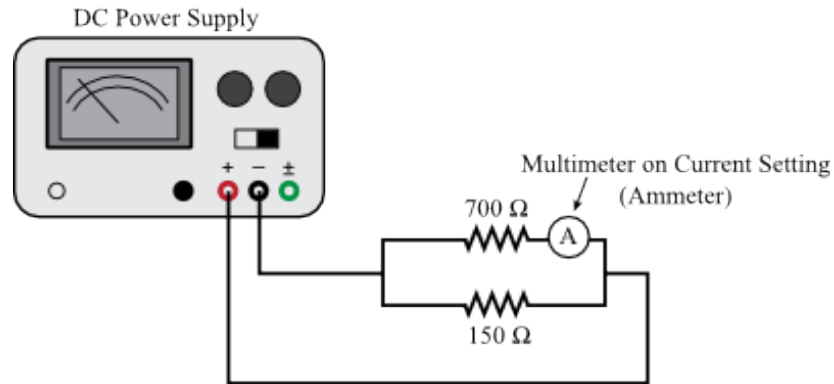

Figure 11
- 5 Turn off the power supply and hook up the multimeter to measure the current as shown in Figure 11. Be sure to set the range on the meter to 20 A. This can be adjusted later, if needed. Use the appropriate jacks on the meter.